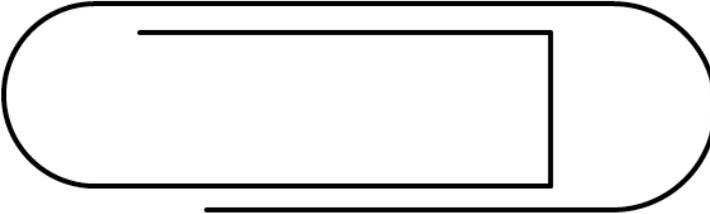
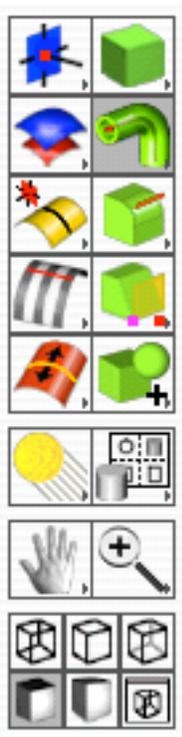

Fig 7. Two ends rounded
Fig 10. The Shade Mode buttons are at the bottom of the Tool Bar
- Repeat this process on the left-hand end of the clip (Fig 7)
- If you are not seeing the clip as it appears in Fig 7, it may be that you are viewing in **wireframe** mode as opposed to **shaded** mode. Try clicking the **shade mode** buttons at the bottom of the **toolbar**. See Fig 10